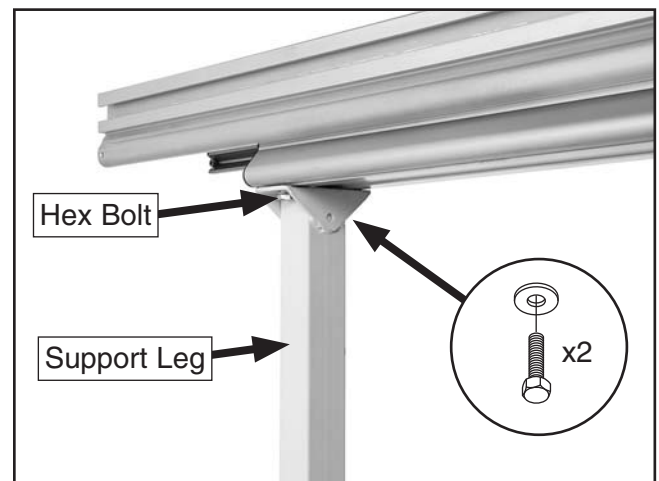

Figure 20. Support leg.
- Attach the support leg to the end of the sliding table base with the two M10-1.5 x 25 hex bolts and two 10mm flat washers (**Figure 20**).